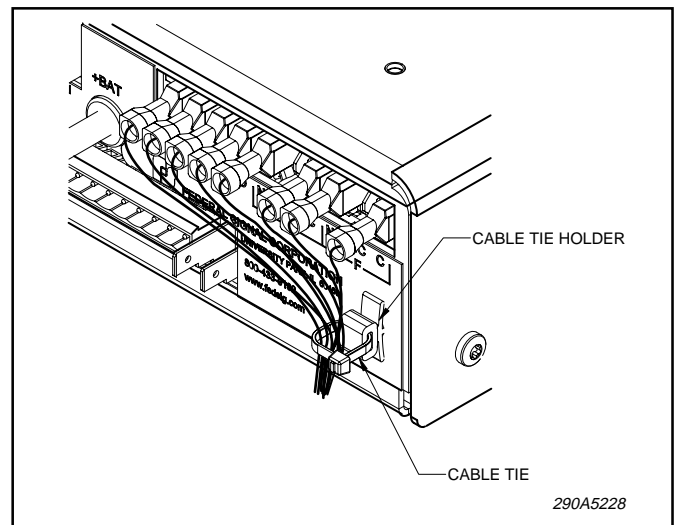

Figure 4-5.
A. See figure 4-5. Insert the cable tie holder into one of the two .250" diameter holes provided in the back of the unit.